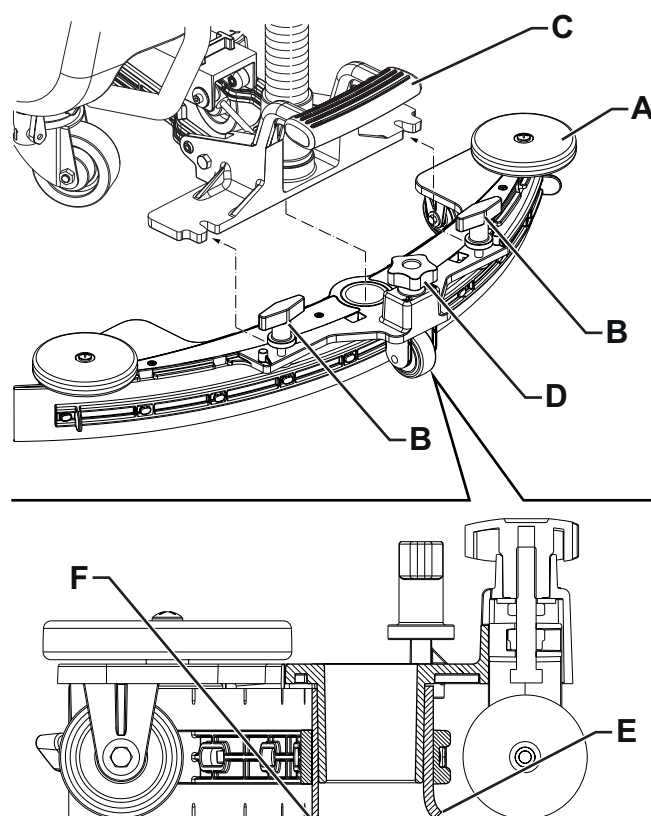

Figure 3
1. Install the squeegee (A, Fig. 3) and fasten it to the bracket (C) with the handwheels (B).
2. If necessary, adjust the squeegee with the knob (D) so that the rear blade (E) and front blade (F) touch the floor as shown in the figure.